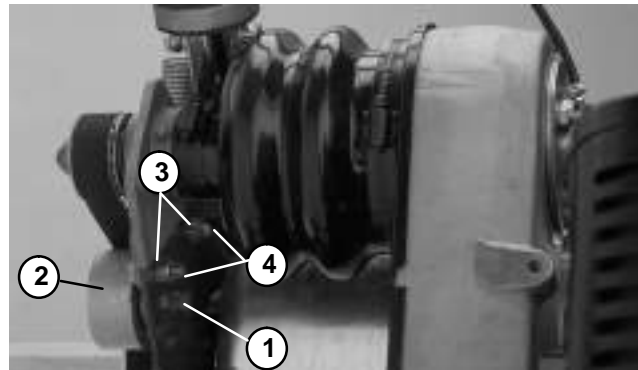
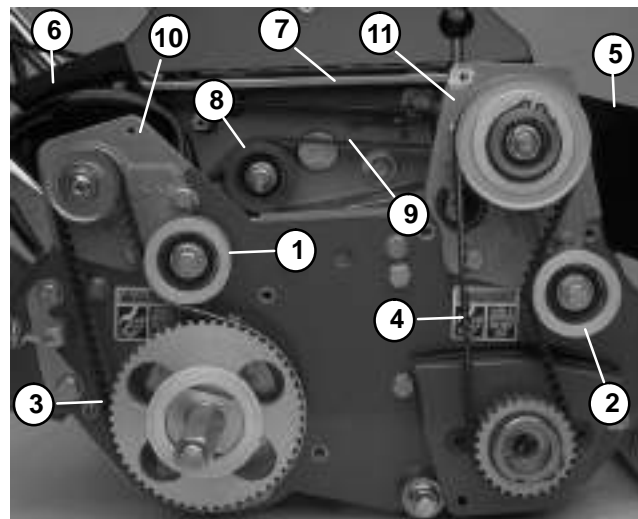

Figure 46
Figure 48
3. Loosen cap screws securing drum and reel drive idler pulleys and spacers to the right side plate (Fig. 46 and 47). Rotate each idler pulley counterclockwise away from the backside of each belt to release belt tension. Remove both belts (Fig.48).
4. Remove capscrews and lock washers securing the front and rear box covers to the counter shaft housing. Slide covers away from the housing to expose the belt (Fig. 48).
5. Loosen cap screw on the engine side of the countershaft housing that secures the idler pulley and spacer. Rotate idler pulley counterclockwise away from the backside of the belt to release belt tension. Cut belt and remove belt from the countershaft housing (Fig.48).
6. Remove both cap screws and locknuts securing the right rear bearing housing to side plate. Rotate housing 180° so the bottom of the housing points upward (Fig. 46 and 48).
9. Rotate clutch and right rear bearing housings back into the upright position. Secure both housings to the sideplate with previously removed cap screws and lock nuts (Fig.48).